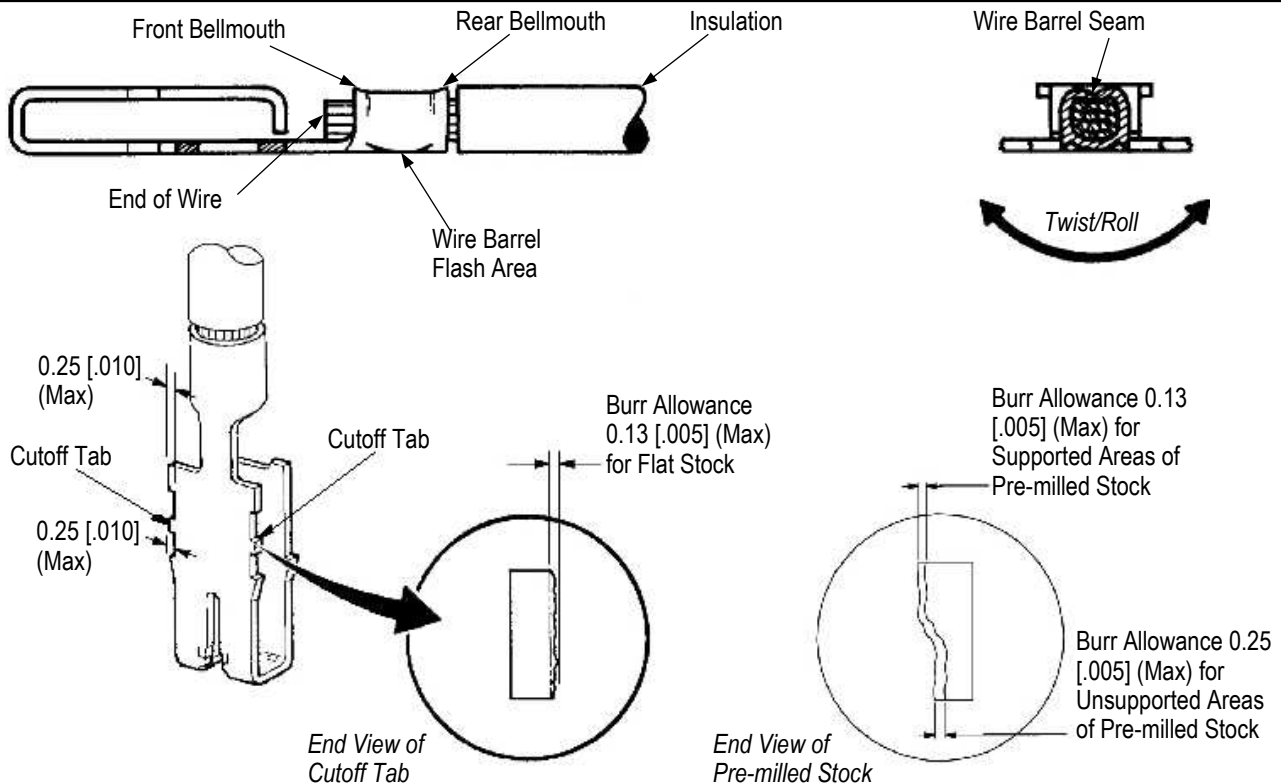

Figure 8
3.5. Terminating Crimp Wire (Figure 8)